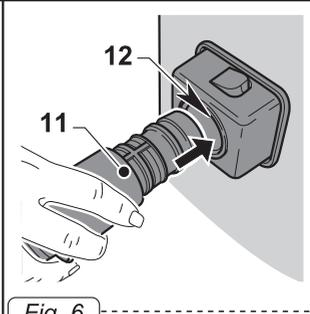

Fig. 6
- Insert, as far as possible, the sleeve (11 Fig. 6) of the suction hose into the nozzle (12 Fig. 6) on the drum.
- To release the sleeve (11 Fig. 6) press and hold the button (13 Fig. 6) and then pull out the sleeve (11 Fig. 6).